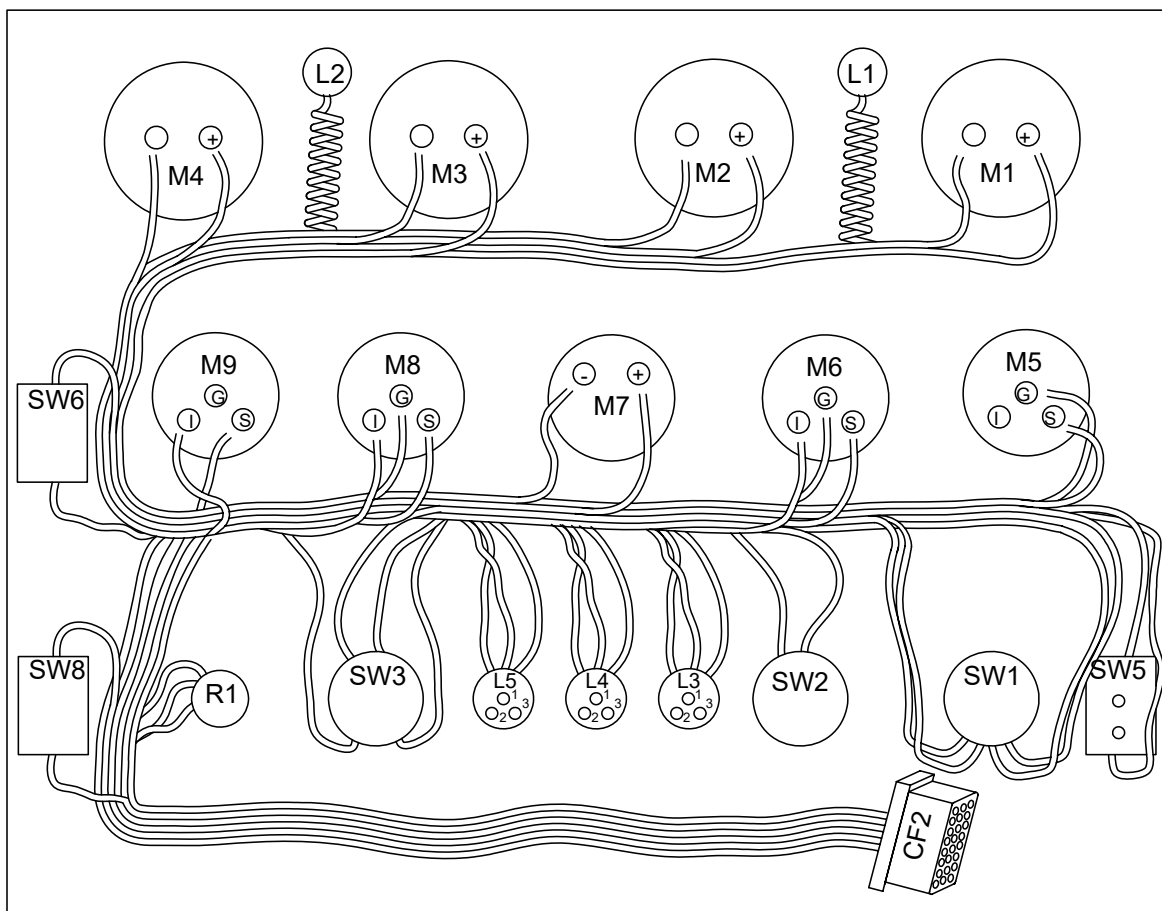

Figure 1. Control Panel Component Identification.
If necessary, refer to (Figure 1) for component location and to (Figures FO-6 through FO-12) for electrical schematic/wiring diagrams.
If necessary, refer to (Figure 1) for component location and to (Figures FO-6 through FO-12) for electrical schematics and wiring diagrams.
12. Connect negative terminal to battery (see WP 0056). Start Genset (Figure 1, Item 1) in accordance with Genset Start Procedure (WP 0005) in this TM.